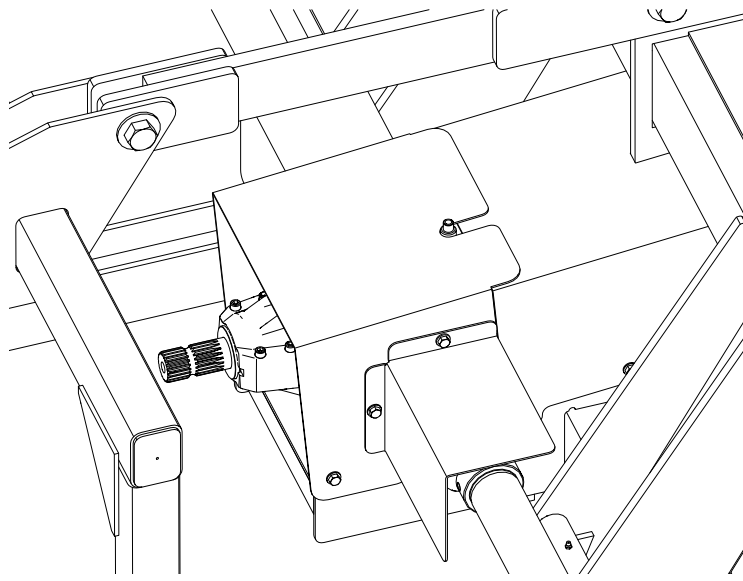

Figure 35. Dipstick Location
9. Add SAE 85W90 gear oil through the dip stick cover. Use the dip stick to check the oil level (Figure 35) and add oil accordingly.